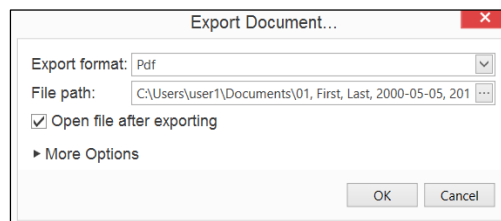

Figure 36: Export Document Window
**NOTE:** The export  drop-down icon can be used to select the required format to export the report. The **Export Document** window will be generated (Figure 36).